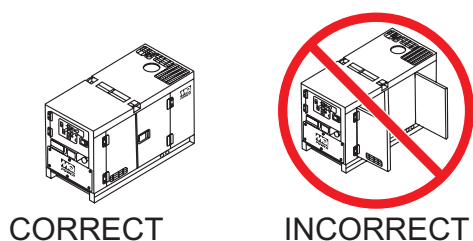

Figure 42. Engine Enclosure Doors
9. Close all engine enclosure doors (Figure 42).